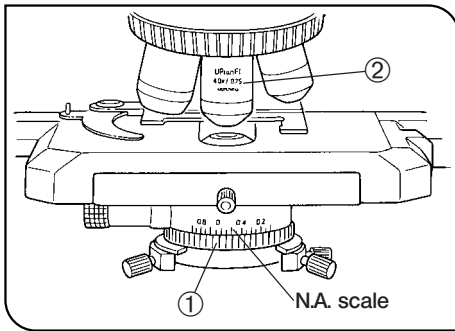

Fig. 32
Set the condenser numerical aperture scale to about 80% of the NA value ② of the respective objective. (Fig. 32)